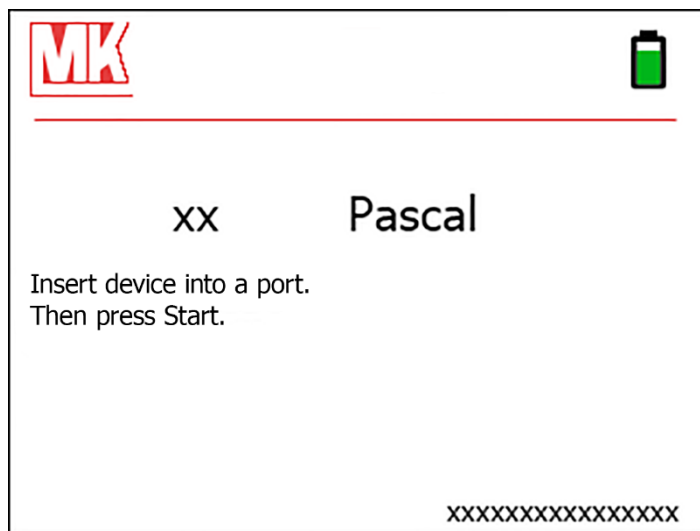

Figure 6: Display, Stand-by
- ⇒ The Glove Test Device starts and is in stand-by after 5 seconds. The display shows various status symbols at the top right (see chapter 3.3, p. 8). In the centre, the current pressure and the next steps. At the bottom are the unit name, serial number and service status (figure 6).